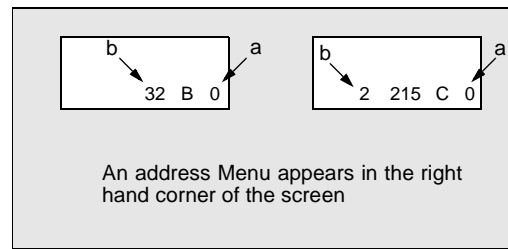

Figure 20. **Serviceman Mode Menu Adjustments.**
**Note:** Only the applicable settings for the Receiver serviced will be available (See **a** in Fig. 20).
1. Press **Channel Up/Down** on the **Remote Control** to select one of the available Service Adjustments (**a** in Fig. 20).
**Note:** Write Down the original value set (**b** in Fig. 20) for each address before modifying anything. It is easy to erroneously adjust the wrong item.
2. Press **Volume Up/Down** on the **Remote Control** to adjust the level of the selected Service Adjustment (**b** in Fig. 20).
1. Press Channel Up/Down on the Remote Control to select one of the available Service Adjustments (a in Fig. 20).
**Note:** Write Down the original value set (b in Fig. 20) for each address before modifying anything. It is easy to erroneously adjust the wrong item.
2. Press Volume Up/Down on the Remote Control to adjust the level of the selected Service Adjustment (b in Fig. 20).
- Note:** Write Down the original value set (b in Fig. 20) for each address before modifying anything. It is easy to erroneously adjust the wrong item.
*Note: Write Down the original value set (b in Fig. 20) for each address before modifying anything. It is easy to erroneously adjust the wrong item.*